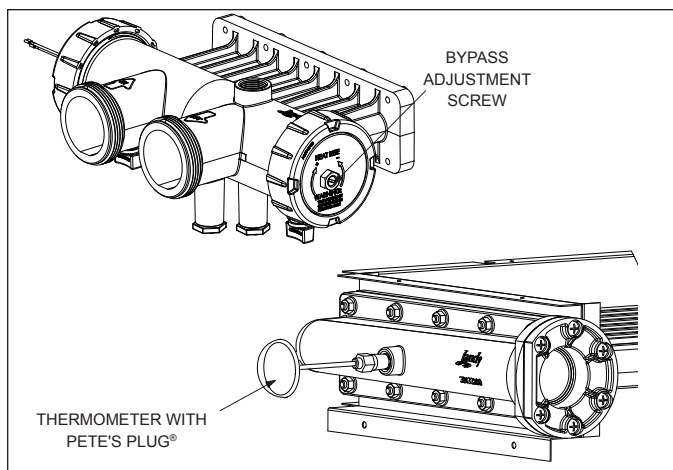

Figure 23. Temperature Rise Measurement
Before checking the temperature rise, make sure that the pool filter is clean and that gas supply and manifold pressures are correct. If necessary, clean all components of the filter system. Temperature rise is measured in the return header of the Legacy. To measure the temperature rise, turn off the filter pump and remove the plastic plug protruding through the cabinet on the return header side of the heater. See Figure 23. With the plug removed, install the special
6. Locate the bypass adjustment screw on the right-hand side of the header, see Figure 23. Loosen the nut so that the screw can be adjusted. A slight water leak past the nut may be expected. Turn the screw counterclockwise to decrease the temperature rise, and clockwise to increase the temperature rise as needed to achieve the ranges in Table 6. After the adjustment, tighten the nut so that no leaks occur.